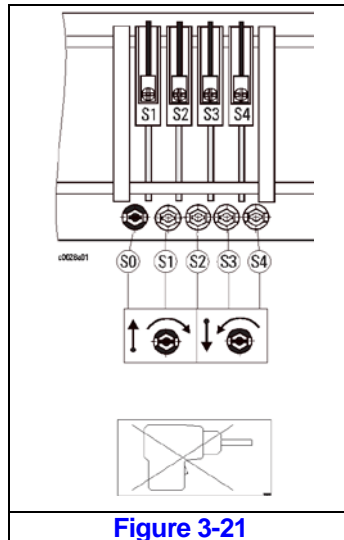

Figure 3-21
3.8.7 Setting hoist limit switch (Figure 3-17, Figure 3-18, Figure 3-19, Figure 3-20, and Figure 3-21).
- 3) The limit switch can be adjusted at the setscrews (S1), (S2), (S3), and (S4) see Figure 3-21.
- All the cam discs can be moved together with the aid of the black setscrew (SO), Figure 3-21. The settings of the individual contacts relative to one another remain unchanged. The gear ratio inside the limit switch is very high and in some instances it might require many revolutions of the set screws to adjust the proper position.